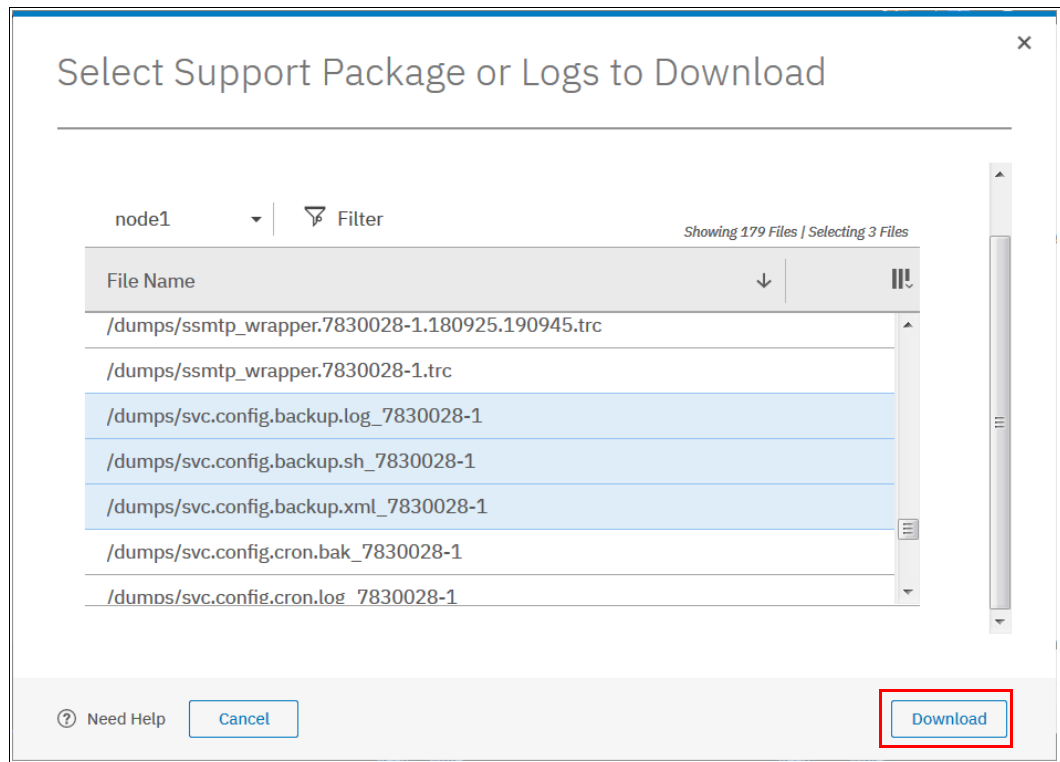

Figure 12-27 Backup files download
3. Search for the files that are named `svc.config.backup.xml_*`, `svc.config.backup.sh_*`, and `svc.config.backup.log_*`. Select the files, right-click, and select **Download**, as shown in Figure 12-27.